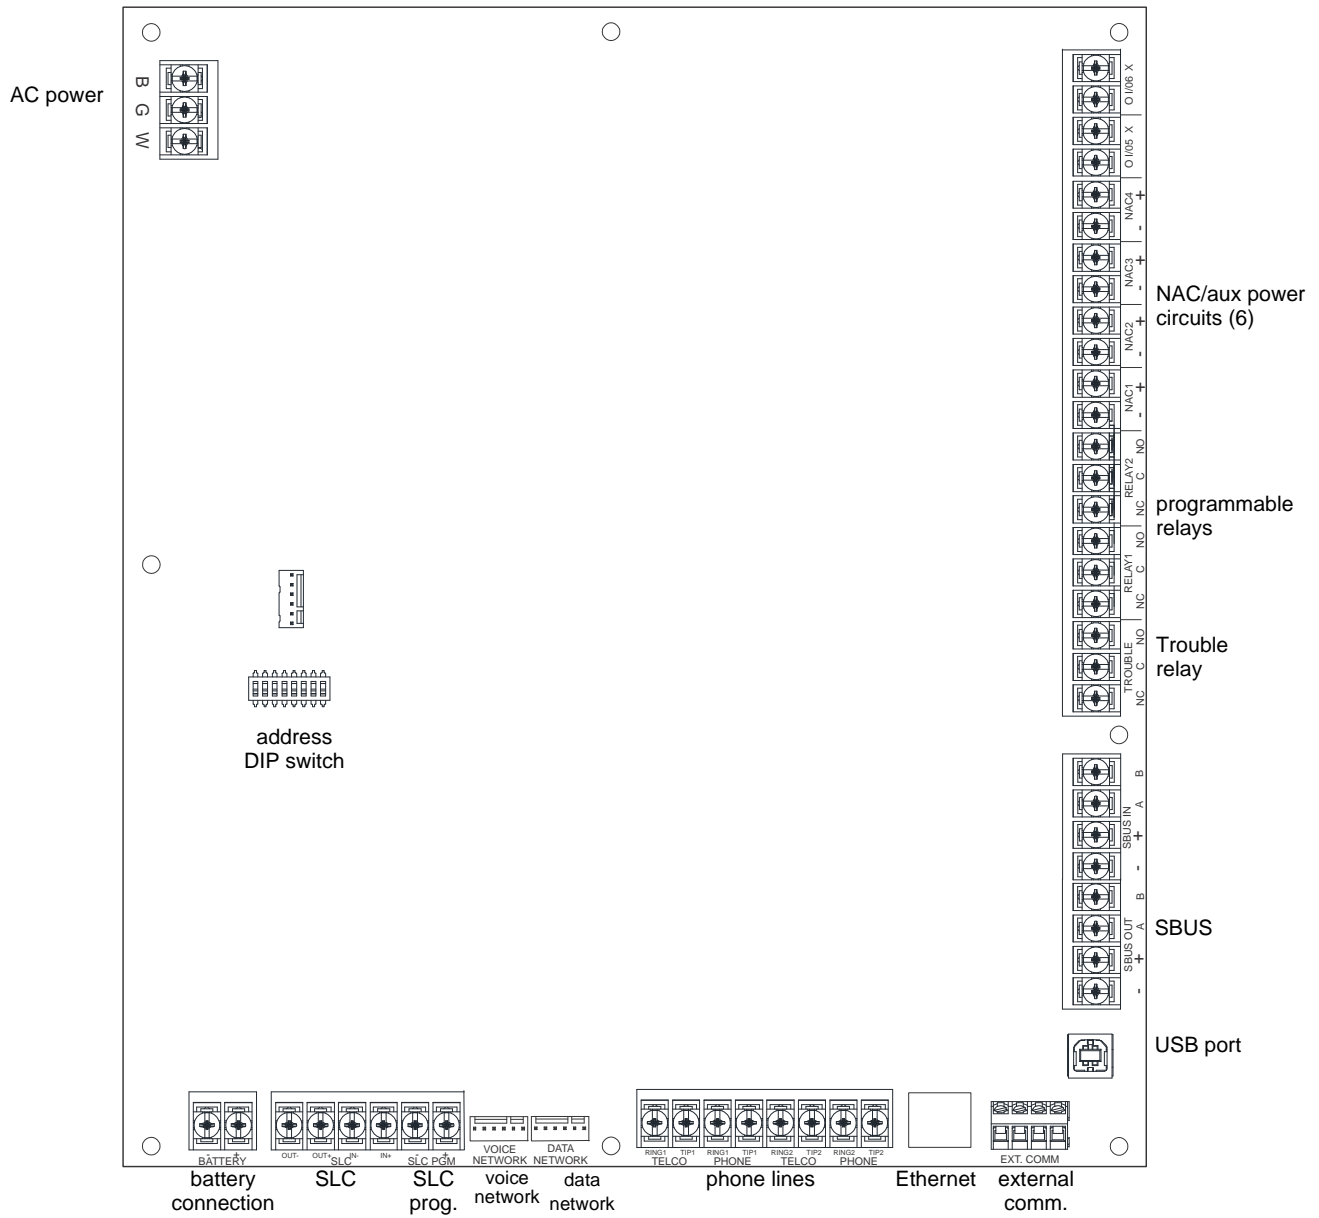

Figure 4.2 6820 Board Layout
- Route the wiring around the inside perimeter of the cabinet. It should not cross the circuit board where it could induce noise into the sensitive microelectronics or pick up unwanted RF noise from the high speed circuits. See Figure 4.2 for an example.